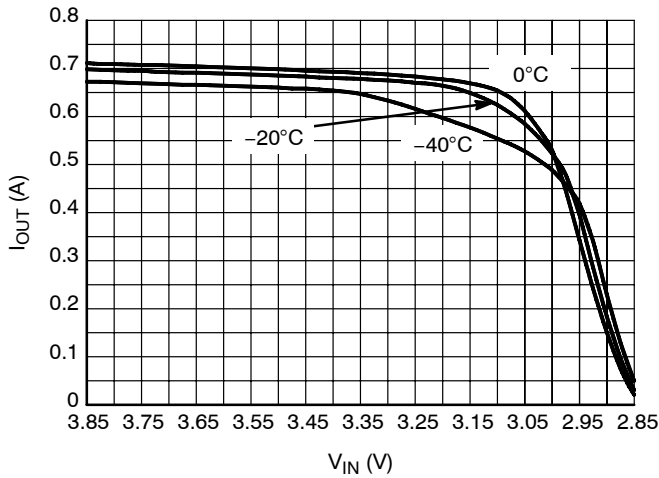

Figure 7. Output Current Capability for the 2.85 V Version
3. For proper operation below  $T_J = 0^{\circ}\text{C}$ , please refer to Figure 7.